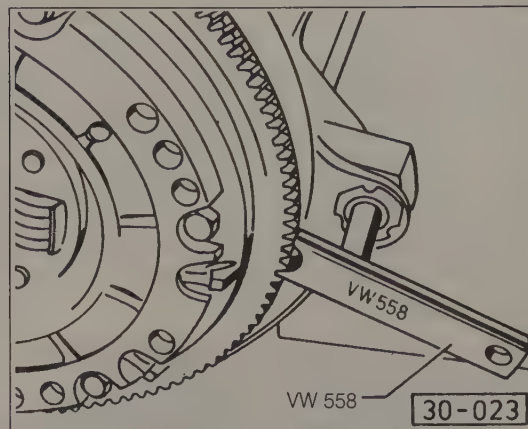

Fig. 5-5. Holding fixture being used while loosening flywheel bolts.
2. Remove the flywheel, clutch disc, and release plate. A holding fixture, Volkswagen special tool number VW 558 (order no. TV0 558 000 13 ZEL), is shown in Fig. 5-5. Loosen the flywheel mounting bolts evenly, one-quarter turn at a time, until the clutch pressure is relieved. Remove the flywheel and the clutch disc.